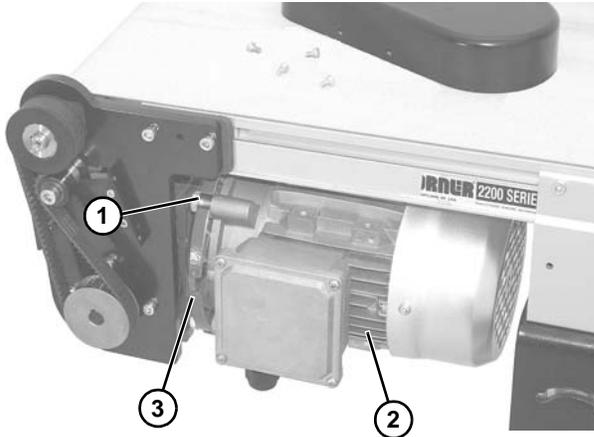

Figure 44
1. Remove four screws (**Figure 44, item 1**). Detach motor (**Figure 44, item 2**) from gear reducer (**Figure 44, item 3**). Retain motor output shaft key.